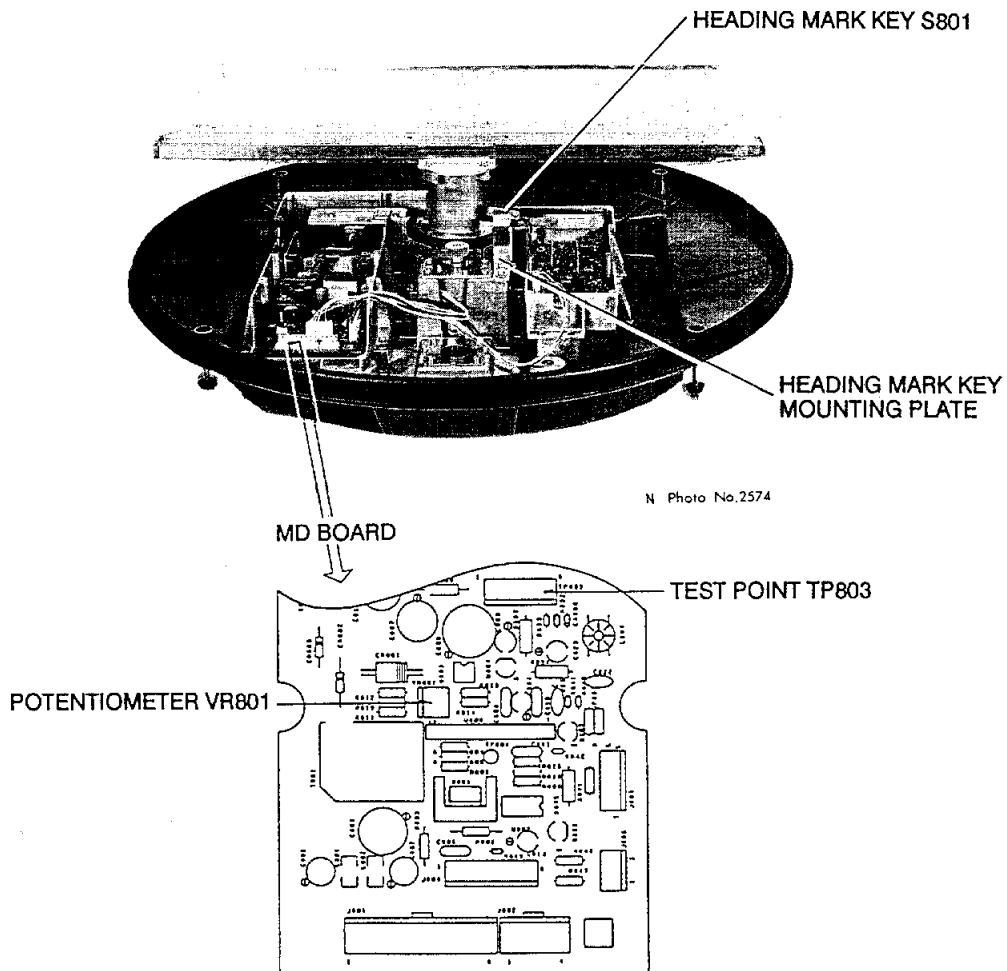

Figure 6-18 Scanner Unit with P. C. Board Covers Removed
5. Open the radome and **slightly** loosen the two screws which secure the heading mark key mounting plate. (See Figure 6-18.) Overloosening makes fine adjustment difficult.